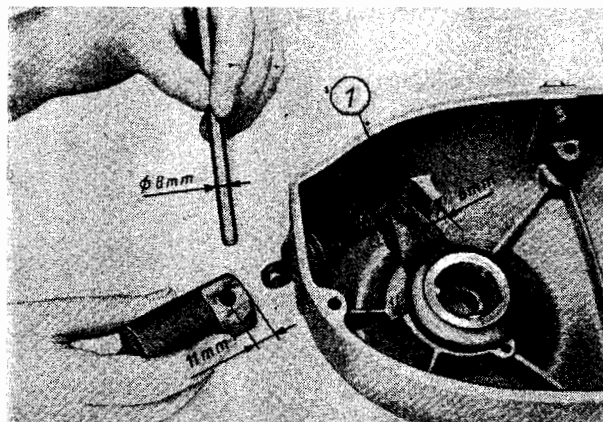

Fig. 80. Coarse adjustment of the clutch actuation mechanism
The piece of pipe prepared according to Fig. 80 must be placed over the nipple eyelet and the mandrel put through the pipe into the nipple eyelet. Then turn the thrust lever in the direction of the stop rib until the pipe makes contact — thus, the distance of 6 mm is provided.
The oblong holes (2) enable the coarse adjustment of the clutch to be changed if the distance of 6 mm mentioned in the explanation regarding Fig. 80 is removed due to wear on the clutch disks so that the rapid adjusting device at the hand lever becomes effective.